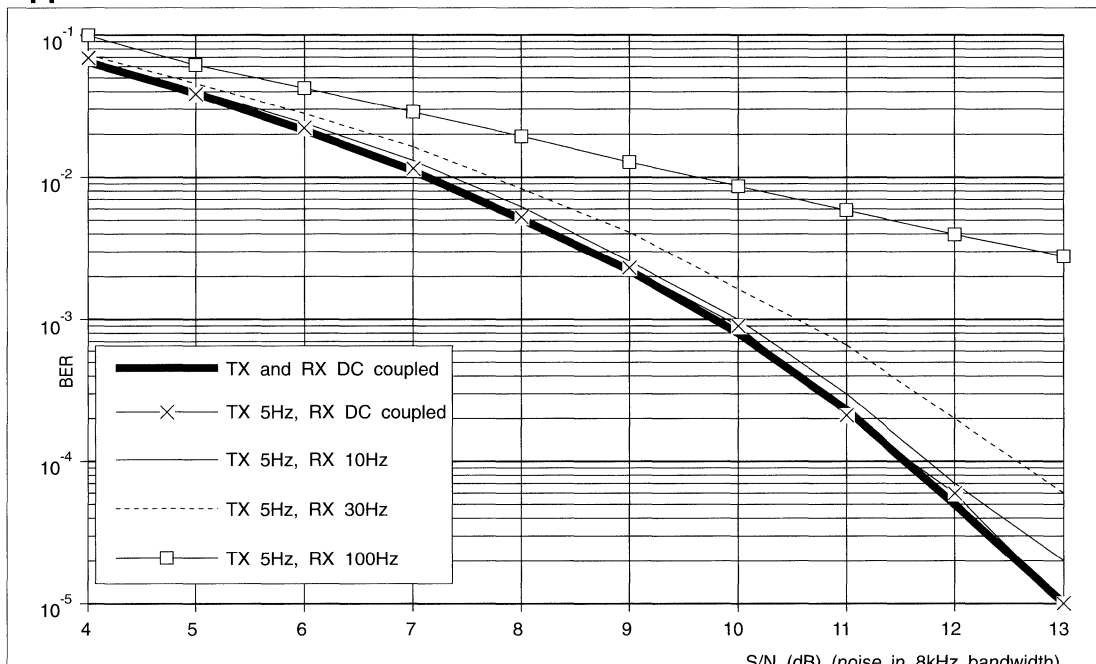

Figure 12 - Typical Bit-Error-Rate Performance for TX and RX D.C. Coupling
1) AC coupling of the signal degrades the Bit Error Rate (BER) performance of the MX589. Figure 12 (above) shows the typical static BER performance of the MX589 at 8kbps (without FEC) for different levels of AC coupling.